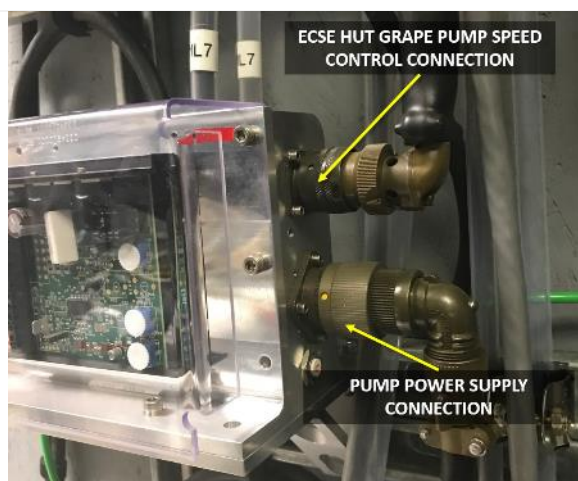

Figure 41. Reconnect Power Cables.
STEP 9 | Reconnect the Grape connections (pump connection first then Ethernet) and then the power cables that directly connect to the pump. See **Figure 41**.